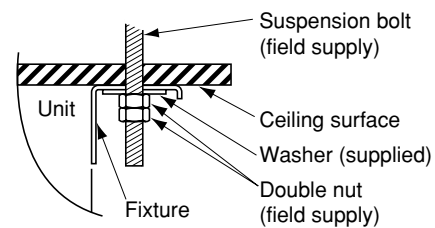
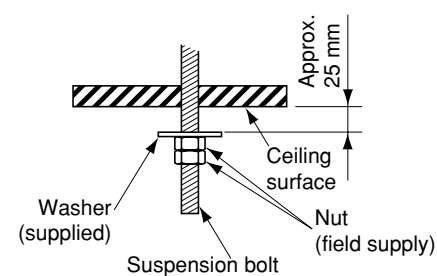

Fig. 3-43
Fig. 3-45
- (6) Carry out the preparation for suspending the indoor unit. The suspension method varies depending on whether there is a suspended ceiling or not. (Figs. 3-43 and 3-44)
- (7) Suspend the indoor unit as follows:
- a) Mount 1 washer and 2 hexagonal nuts on each suspension bolt as shown in Fig. 3-45.